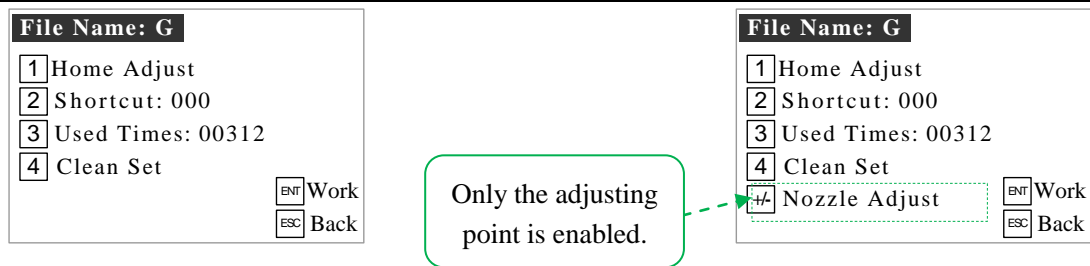

Fig. 3-4: Processing File Manage Interface
- 1) Press “**F2**” or “**F3**” button to select the processing file which needs to process. And then press **ENT** button into processing file manage interface (Fig. 3-4).
- 2) After selected the teaching file in Processing-File-List-Interface, press **ENT** button into the Processing-File-Manage-Interface, and then press **1** button into the “Home-Adjusting Interface” (Fig. 3-4).